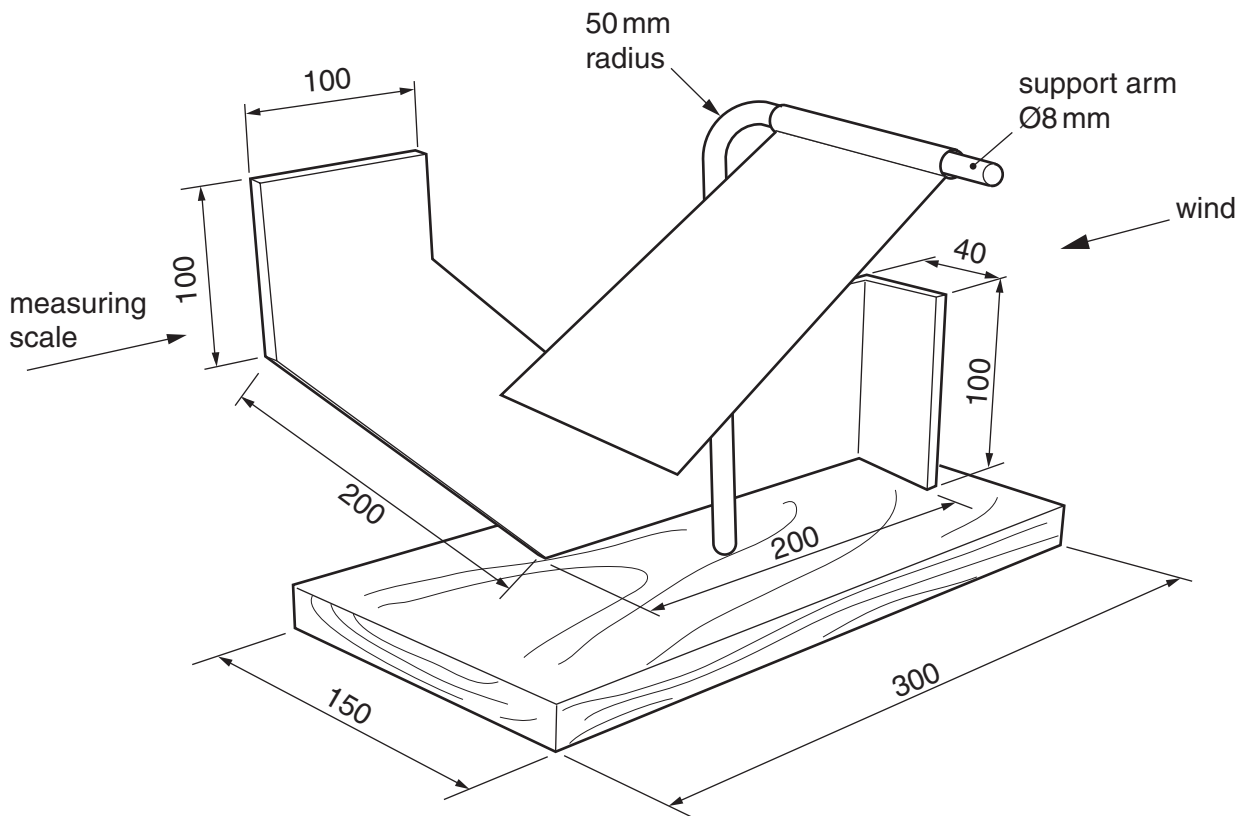

Fig. 5
- 8 Fig. 5 shows a design for a wind speed indicator to be manufactured in a school workshop.